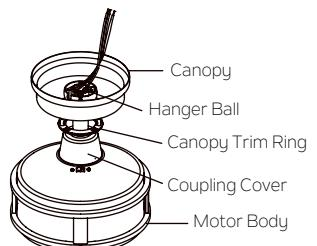

Fig. 9
**Step 5.** Slip the coupling cover, canopy trim ring and canopy onto the downrod. Carefully reinstall the hanger ball onto the downrod. Make sure the cross pin is in the correct position and the set screws are tight and the wires are not twisted. (Fig.9)